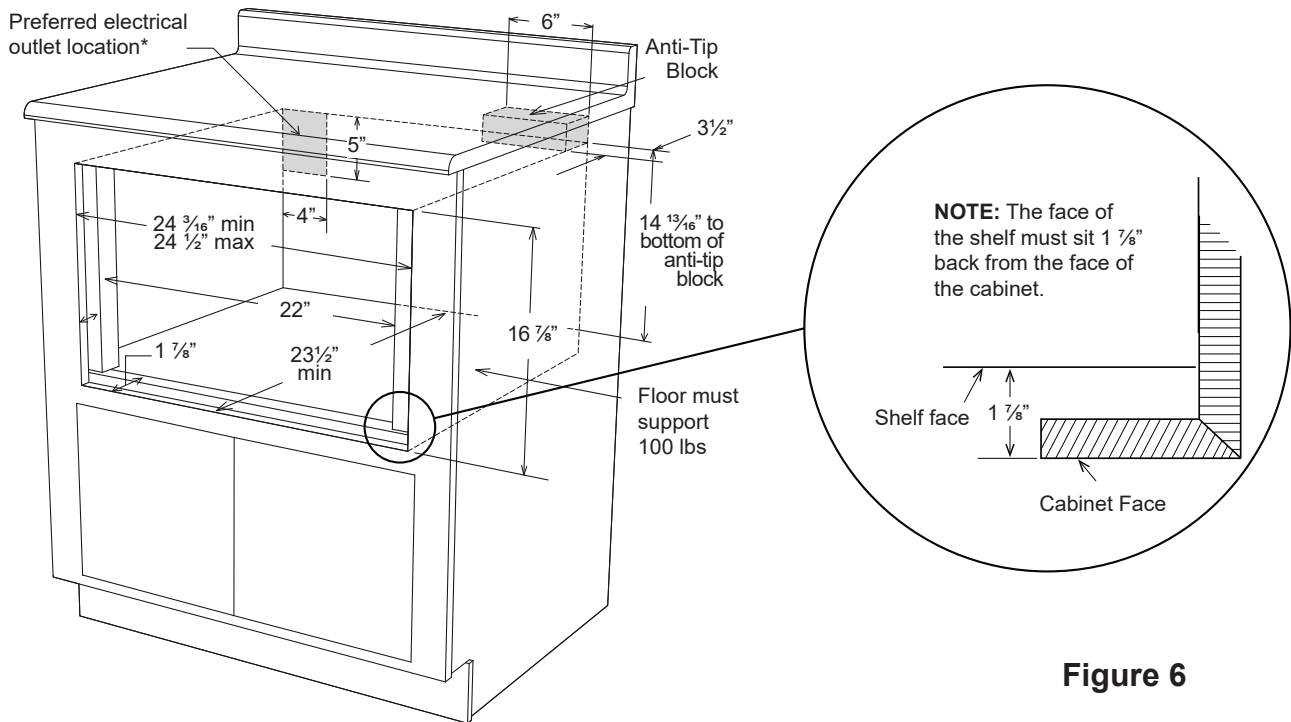

Figure 6
1. Prepare cabinet opening as shown in Figures 6, 7, 8, and 9.
1. Prepare cabinet opening as shown in Figures 6, 7, 8, and 9 (cont).